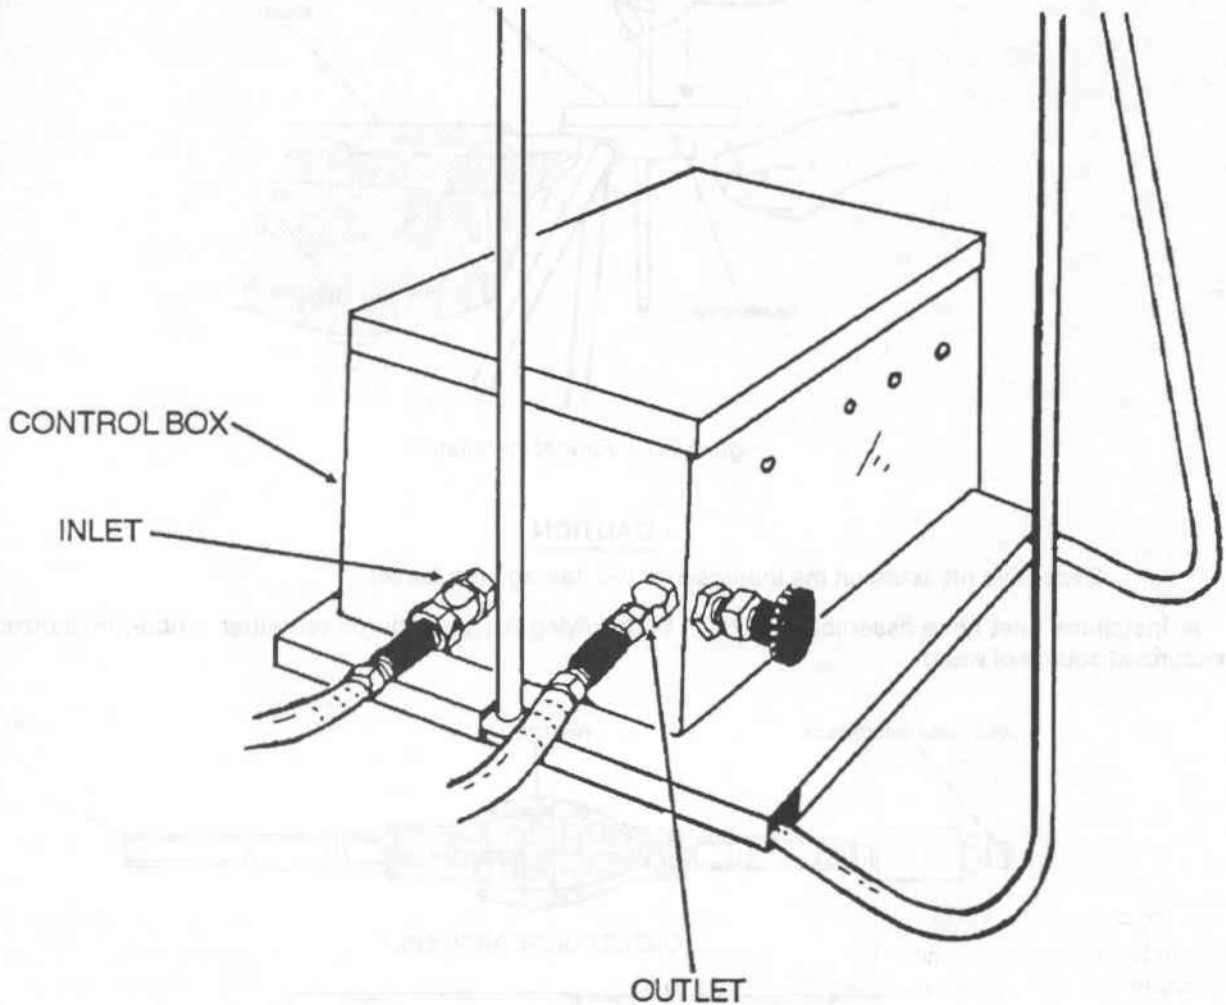

Figure 2-12. Inlet and outlet connections.
(2) *Pressurized water source.* Depress the quick-disconnect collar and remove the adapter assembly from the inlet hose assembly. Install the adapter assembly onto the inlet connector of the control box (fig 2-12). A 3/4 inch water hose can now be connected directly to the control box eliminating the need for a potable water can.
i. Install the outlet hose assembly by connecting the male quick-disconnect on one end to the female outlet on the control box (fig 2-12). Then, slide the opposite end of the outlet hose assembly over the barbed fitting on the faucet (fig E-5).
- e.* Depress the quick-disconnect collar and remove the adapter assembly from the inlet hose assembly. Install the adapter assembly onto the inlet connector of the control box (fig 2-12). A 3/4 inch water hose can now be connected directly to the control box eliminating the need for a potable water can.